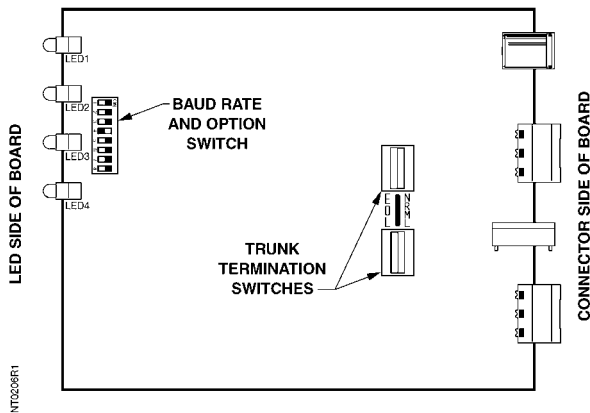

Figure 2. Jumpers and Dip Switches.
4. Set the trunk biasing DIP switches according to the information inside the cover. See Figure 2 for location of switches on the HSTIE board.